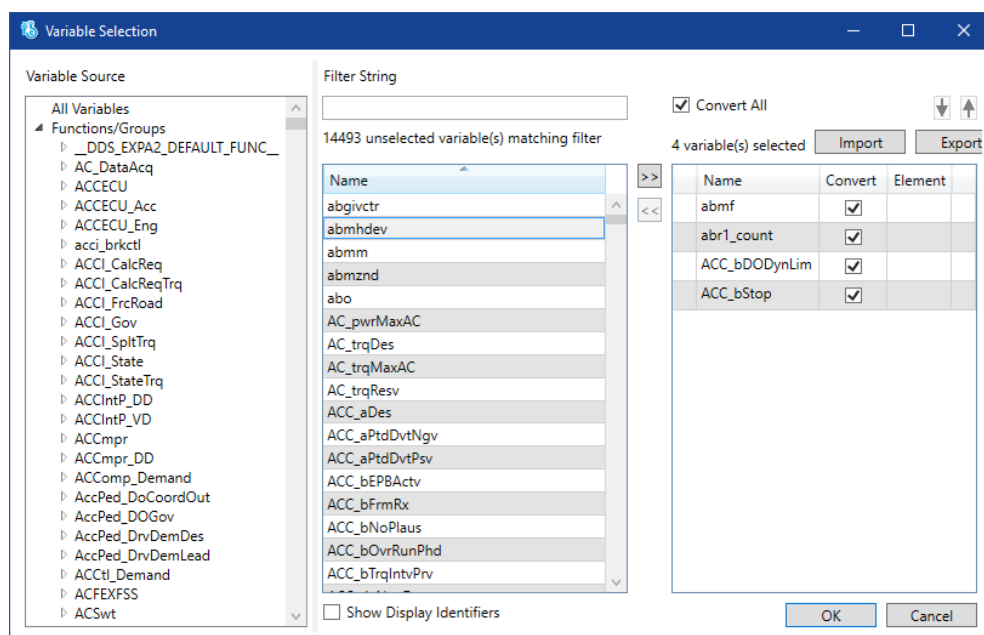

Figure 4.16: EHOOKS variable selection dialog window (see the EHOOKS-DEV user guide for further information)
3. To open the EHOOKS variable selection dialog window (see Figure 4.16 on the next page), do one of the following: